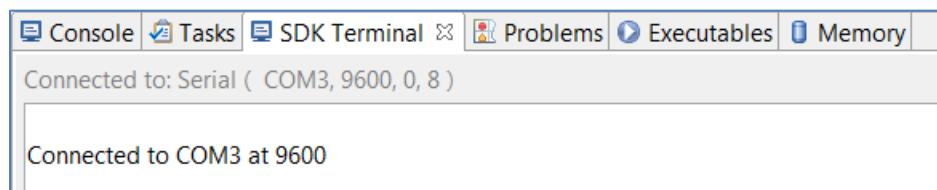

Figure 119: Verify Terminal Connection
8. Use the settings shown in Figure 119 for the KC705 board and click **OK**.